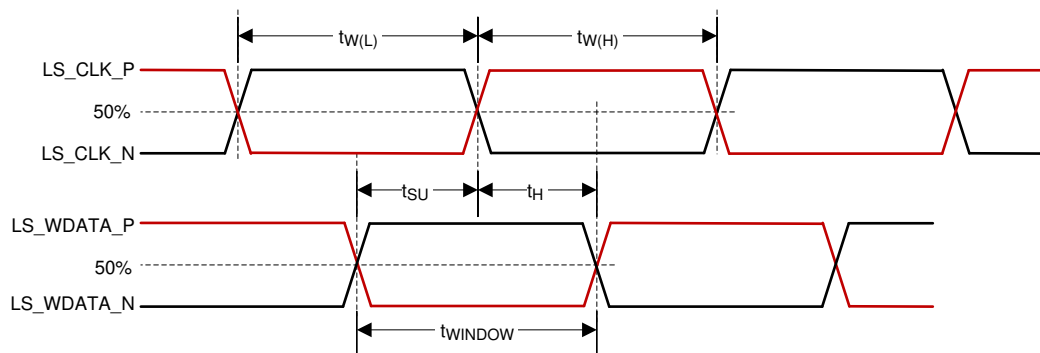

Figure 5-5. LSIF Timing Requirements
(3) See Figure 5-5 for pulse duration high and low time for LSIF.
(4) See Figure 5-5 for setup and hold time for LSIF.